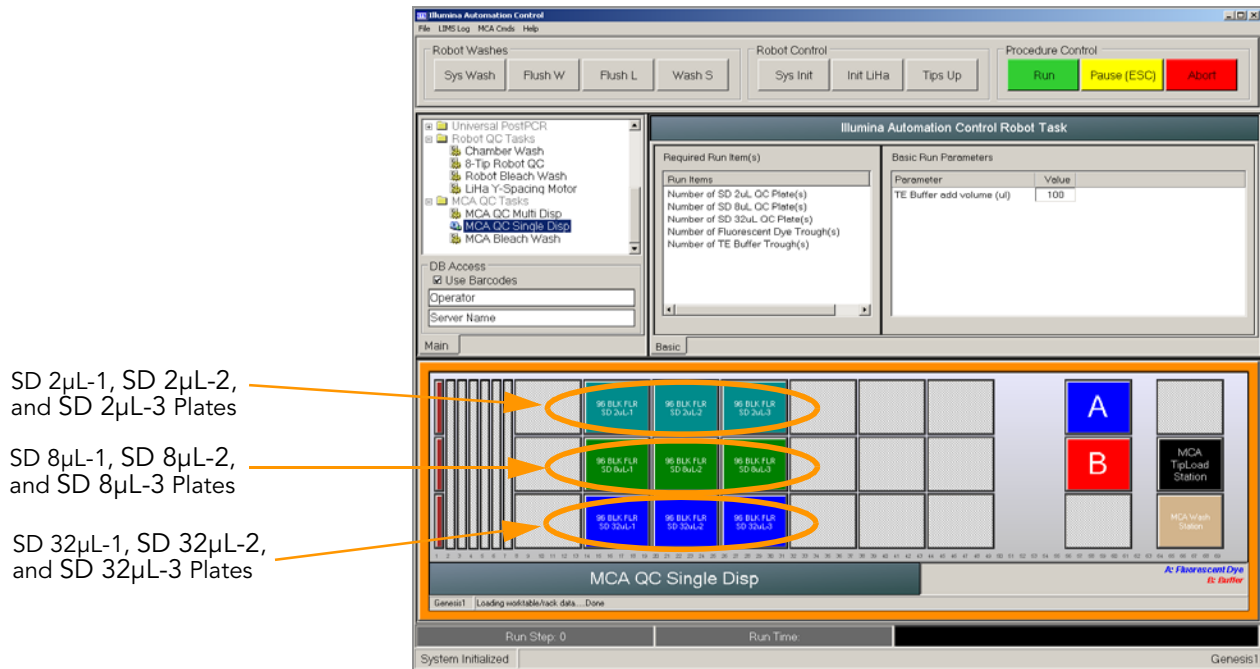

Figure 80 MCA QC Single Disp Task
7. Place the Fluotrac 200 plates on the robot bed according to the robot bed map. SD 2µL-1, SD 2µL-2, and SD 2µL-3 plates should be on the back row, left to right, SD 8µL-1, SD 8µL-2, and SD 8µL-3 plates in the middle row, left to right, and SD 32µL-1, SD 32µL-2, and SD 32µL-3 plates in the front row, left to right. See Figure 80 for correct plate placement.